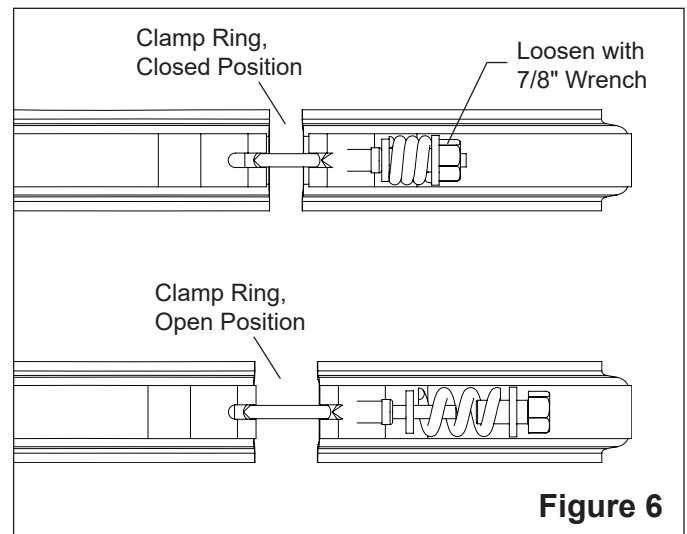

Figure 6
3. Loosen the clamp's barrel nut with a 7/8" wrench, allowing the spring coils to decompress. See **Figure 6**. Remove the barrel nut, spring and two washers from the T-bolt and place them in a safe place where they will not be lost.